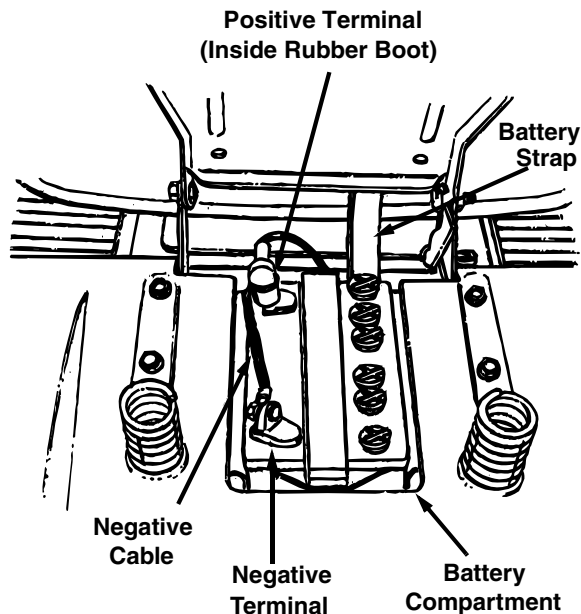

Figure 9
2. Make certain both the negative (black) cable and the positive (red) cable are routed up through the battery compartment as shown in Figure 9.